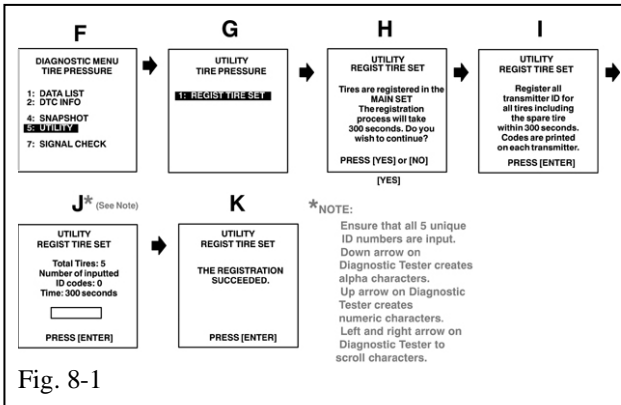

Fig. 8-1
- Select the REGIST TIRE following the hand-held tester screen. (Fig. 8-1) (UTILITY – REGIST TIRE)